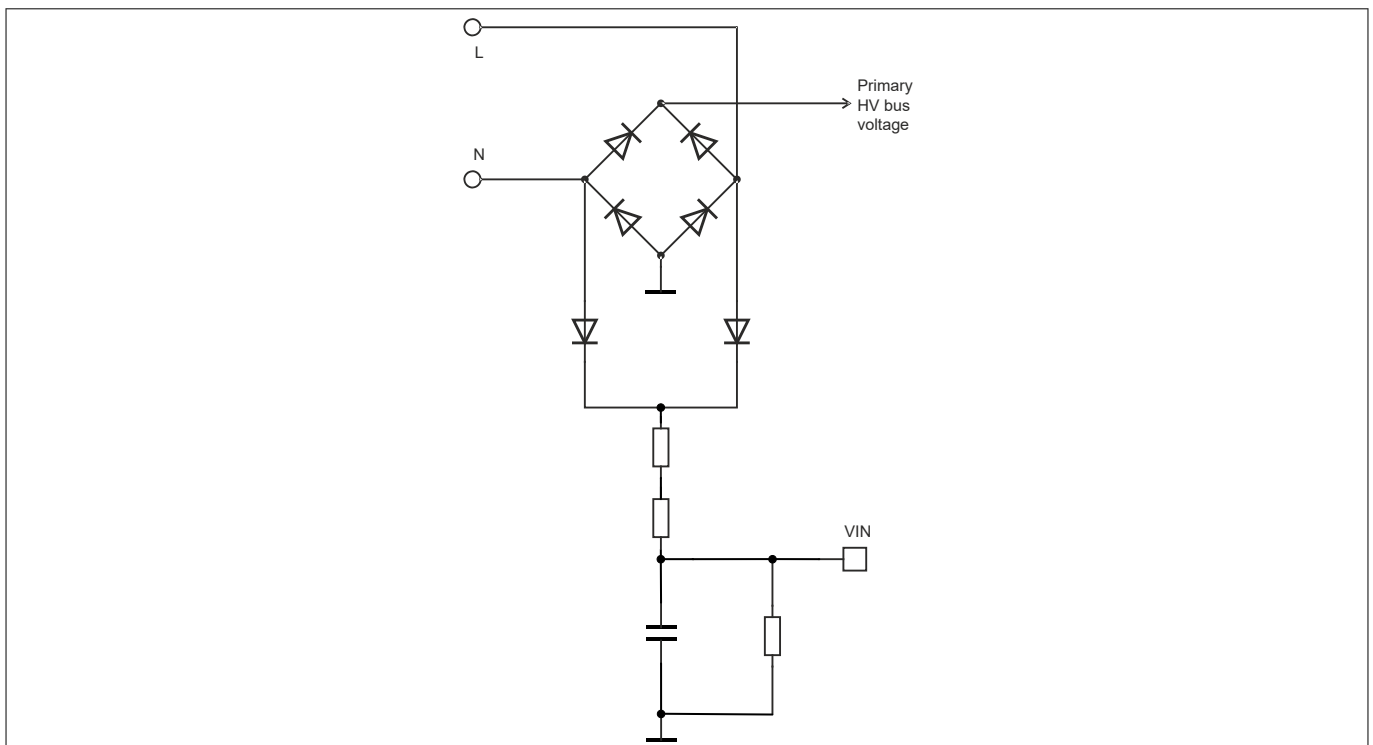
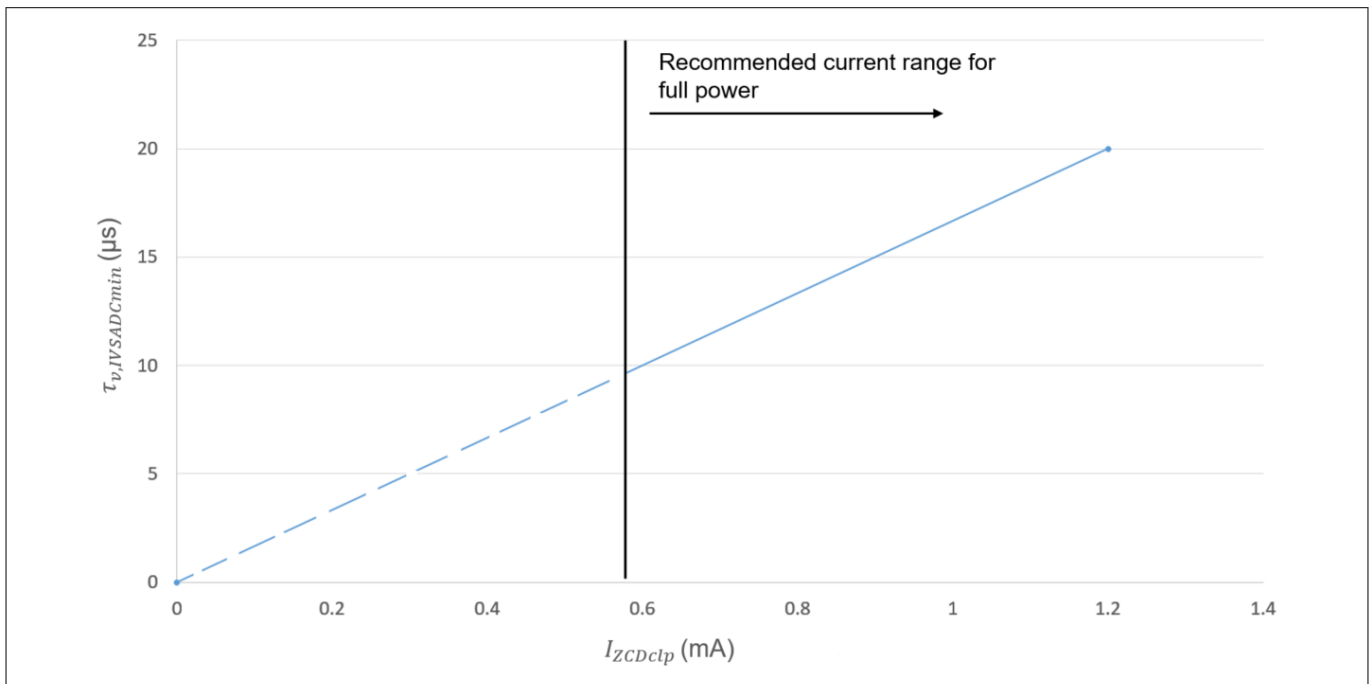
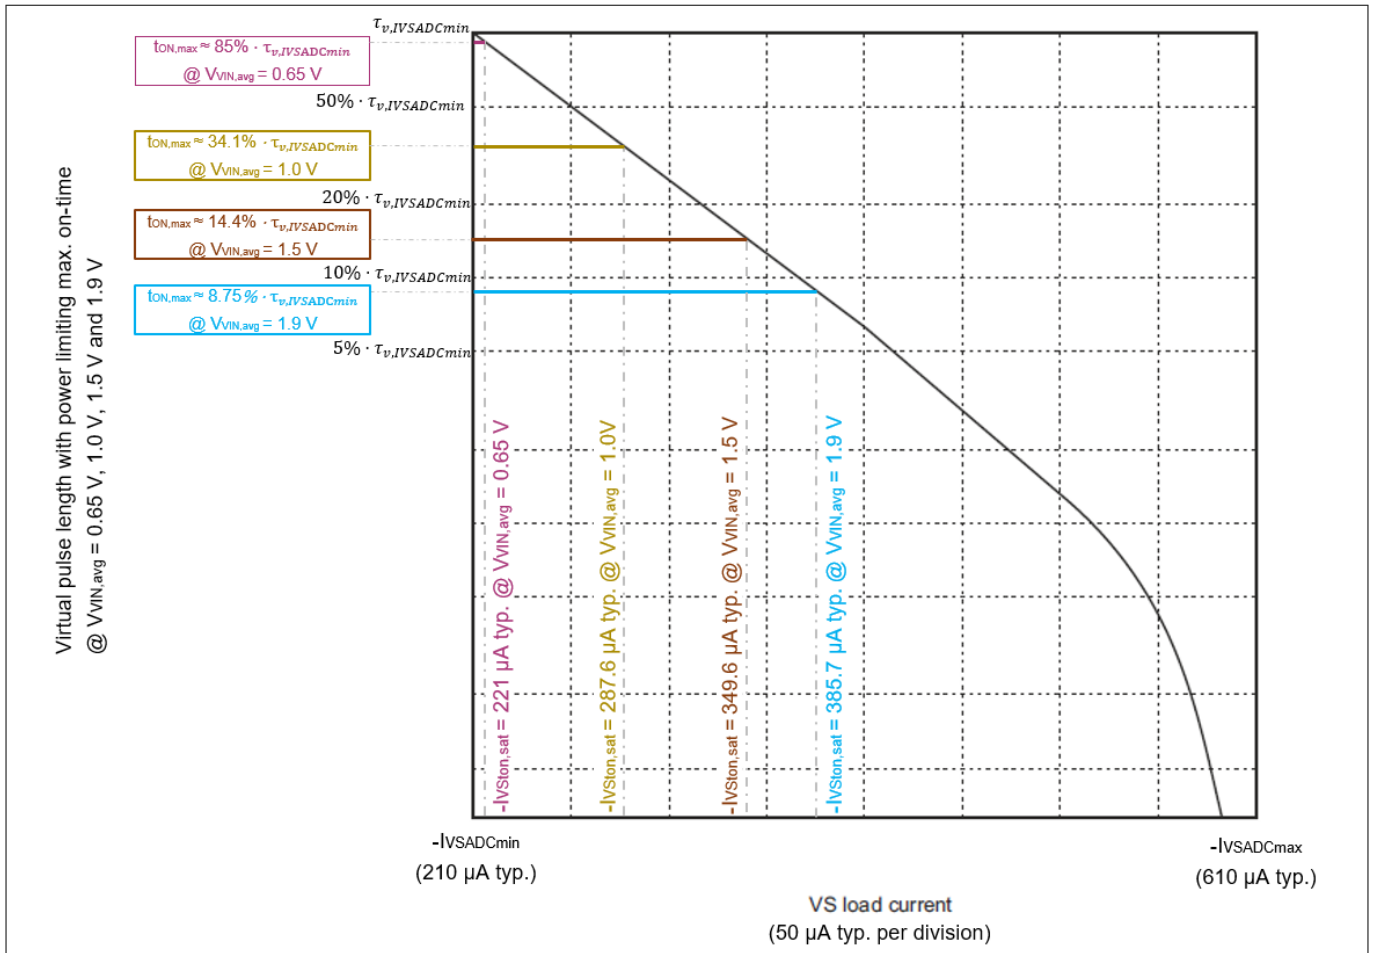

Figure 7 V_{IN} pin circuit
Figure 15 Virtual pulse length at $I_{VSADCmin}$, $\tau_{v,IVSADCmin}$ versus ZCD peak to peak settled clamping current, I_{ZCDclp}
Figure 16 Virtual pulse length mapping with power limiting maximum on-time effect
1. Based on $I_{ZCDclp} = 1.2 \text{ mA}$, obtain $\tau_{v,IVSADCmin} = 20 \mu\text{s}$ from Figure 15.
For $t_{ON,max}$ estimation, it is important to note that $\tau_{v,IVSADCmin}$ changes with different $V_{VIN,avg}$ level, when the input voltage detection circuit in Figure 7 is applied. This is because $\tau_{v,IVSADCmin}$ is scaled exponentially depending on I_{ZCDclp} in Figure 15, while I_{ZCDclp} is dependent on the input voltage, as explained in ZCD pin signal sensing.
Figure 16 shows the virtual pulse length with the power limiting maximum on-time effect, when $V_{VIN,avg}$ is 0.65 V, 1.0 V, 1.5 V and 1.9 V, respectively.
When $V_{VIN,avg}$ is at the brownin level ($V_{BI} = 0.65$ V typ.), the power limitation is enabled with $t_{ON,max} = 85\%$ of $\tau_{v,IVSADcmin}$, as shown in Figure 16. For example, if the desired $t_{ON,max}$ at brownin level is 17 µs typ., it is necessary to have $\tau_{v,IVSADcmin} = 17 \mu\text{s} / 85\% = 20 \mu\text{s}$. And, according to Figure 15, $\tau_{v,IVSADcmin} = 20 \mu\text{s}$ is obtained when $I_{ZCDclp} = 1.2$ mA is applied. As a result, to achieve $t_{ON,max} = 17 \mu\text{s}$ typ. at brownin level, R_{ZCD} should be dimensioned to produce $I_{ZCDclp} = 1.2$ mA typ. at brownin level.